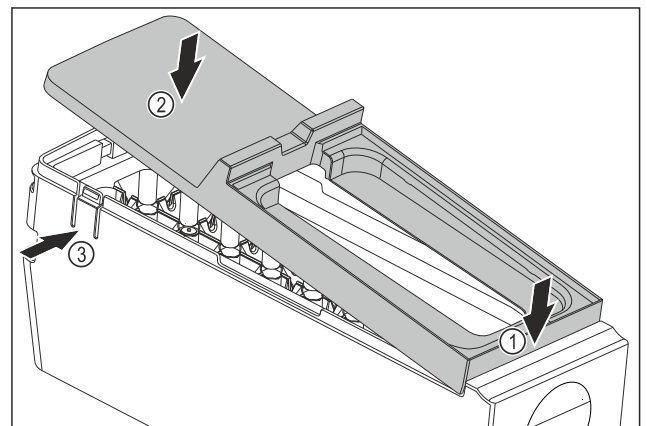

Fig. 82
- ▶ Installing the EasyTwist-Ice body cover: Place the cover on the front. Fig. 82 (1)
- ▶ Lower the cover at the rear. Fig. 82 (2)
- ▶ The cover locks into both tabs Fig. 82 (3) audibly.